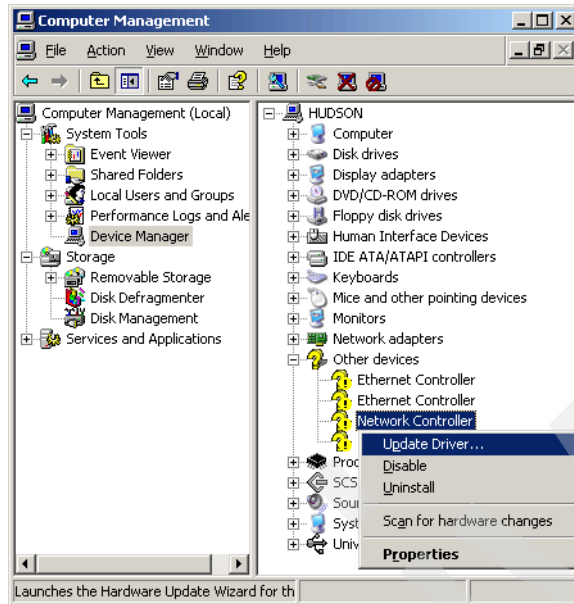

Figure 21-4 Device Manager - Update driver
2. Right-click the first Network Controller in Device Manager and select **Update Driver....** from the context menu, as shown in Figure 21-4.